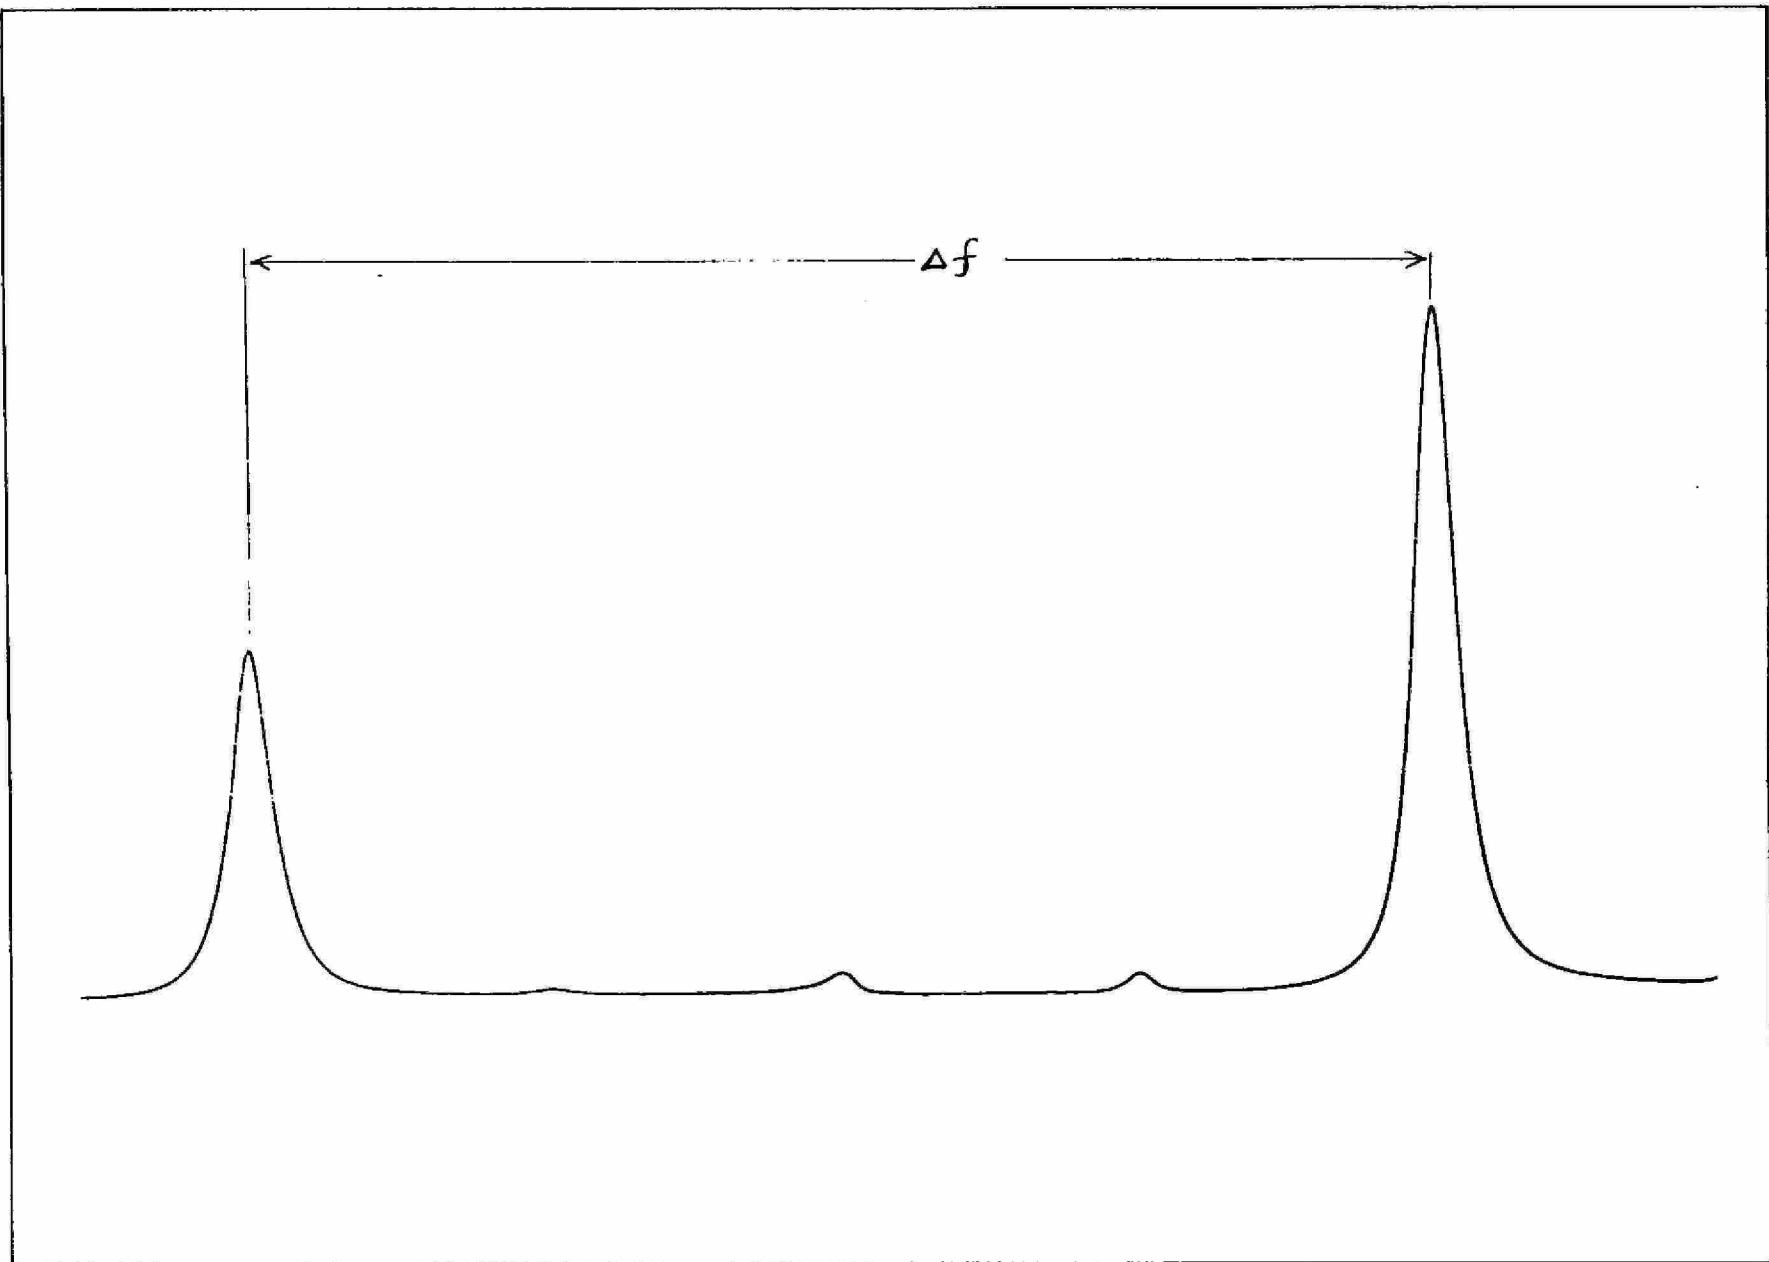

FIGURE 1-46. HIGH TEMPERATURE SAMPLE
- f. Run a trace of the ethylene glycol and position the spectrometer controls to place the right hand peak on chart zero as shown in Figure 1-46.